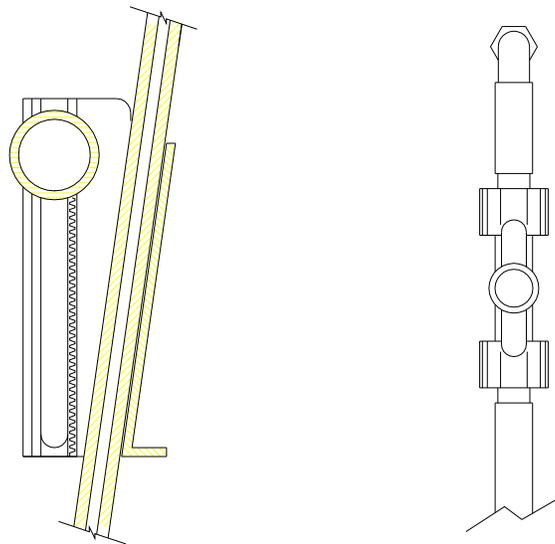

Figure 7-3
3. Open the two shut-off valves to the seventh vessel at the Media-Mate Plus dispense assembly (see figure 7-3).
For Seven Vessels: Open the ball valve and pinch valve at vessel 7 (see figure 7-3):